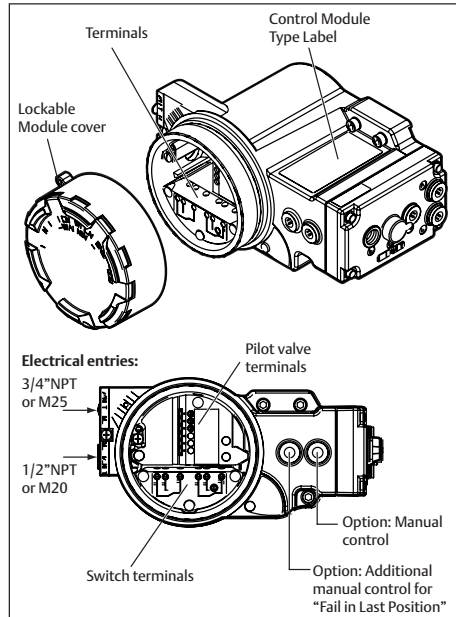

Fig. 4.1 Terminal connections behind cover
2. Remove control module cover (see Figure 4.1).
5. Mount the control module cover to the housing (see Figure 4.1) or continue with chapter 5. Take care that the cover seal is in place to comply to dust and water tightness according to IP66 or NEMA4X.